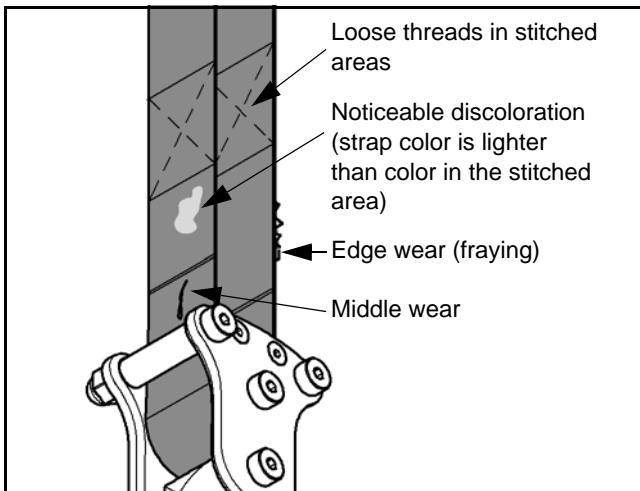

Fig. 33
- 2) Look for any signs of wear or discoloration (see Fig. 33 below).